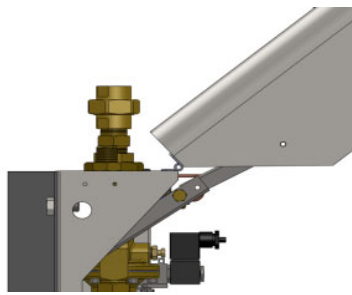
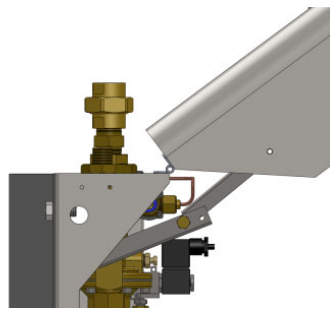

Figure 12
Figure 13
1. Pull open the front cover of the control module from the bottom. The front cover opens from bottom to top. Two prongs on each side of the control module can be lifted and inserted to the cover to hold the cover open, as shown in Figure 12 and Figure 13.